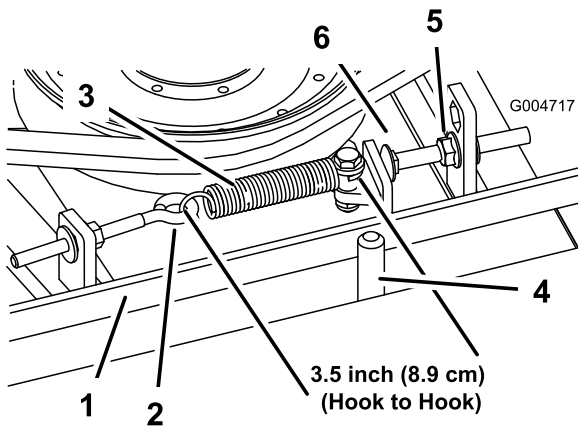

Figure 70
When properly tensioned, the extension spring (hook to hook) measurement should be approximately 8.9 cm \pm .63 cm (3.50 \pm .25 inch) (inside). Once the correct spring tension is attained, adjust the stop bolt (carriage bolt) until there is approximately .32 cm \pm .152/.000 cm (.125 \pm .060/-.000 inch) clearance between the head of the bolt and the idler arm (Figure 70).
Note: Make sure the belt is positioned on the spring side of the belt guide (Figure 70).
idler arm to pass by the stop bolt (Figure 70). Move the idler pulley away from the belt to release belt tension.
- Reconnect the extension spring (Figure 70) to the eye bolt and tension the belt as follows:
- Loosen the eye bolt allowing the removal of the extension spring (Figure 70).